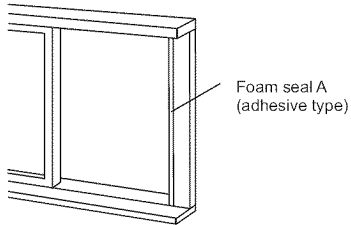

Fig. 14
1. Cut the foam seal(adhesive type) to the proper length and attach it to the window frame. Shown as in Fig.14.